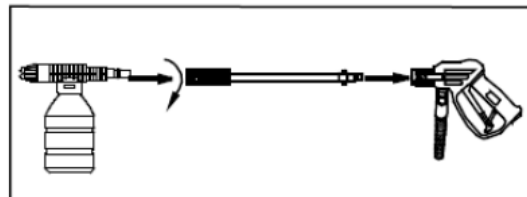

Figure 7 - Attach applicator to gun
4. Attach detergent applicator to gun. (See Figure 7)